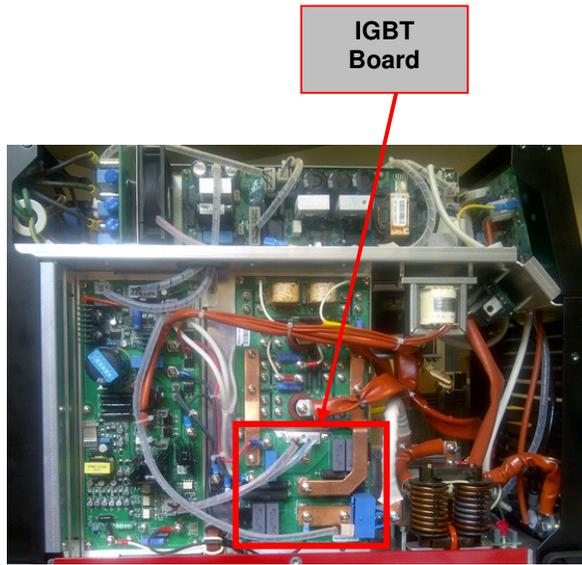

Figure 16 – W05X1524 IGBT board location
3. Locate the IGBT board on the left side of the machine. See **Figure 16**.